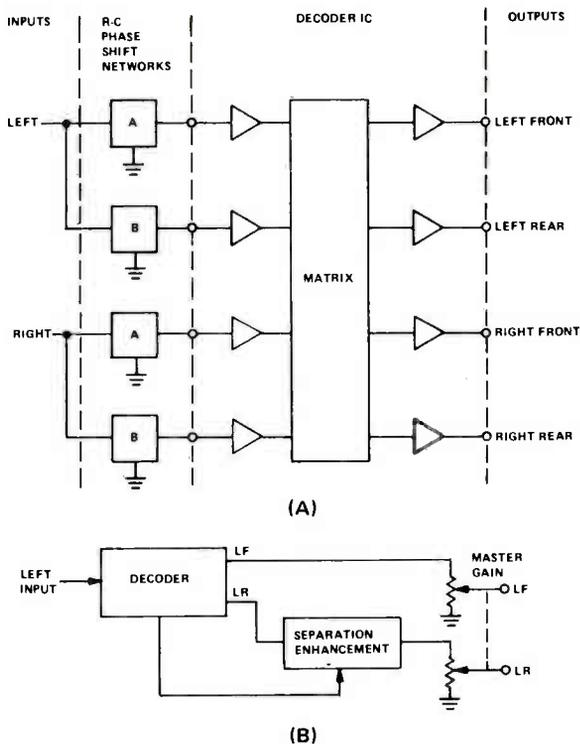

FIGURE 6. EVX-44 DECODER CONNECTIONS (A) AND FUNCTIONAL DIAGRAM (B).
The new decoder was developed through extensive computer analysis of the existing encoding systems. The result was a special integrated circuit plus several external components, as shown at (A) in Figure 6. The IC is proprietary, of course, but is being made available to all hi-fi equipment manufacturers and recording companies, as was the original decoder.
The decoder functional diagram of the left channels is shown in Figure 6(B). Notice the block marked "separation enhancement." This is a system of "gain riding" circuits which senses the presence of a dominant signal in one of the channels and increases its amplitude or reduces the amplitude of the other three to increase the apparent separation.